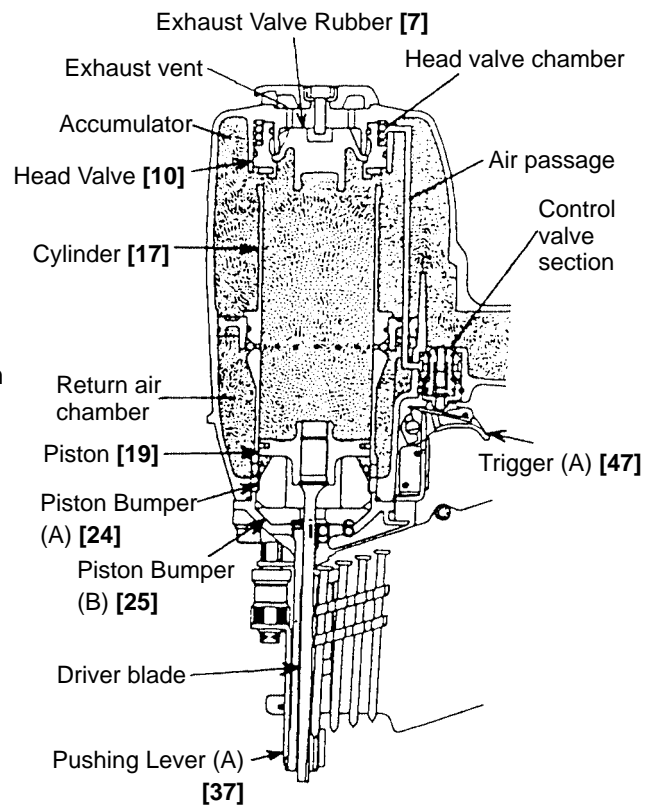
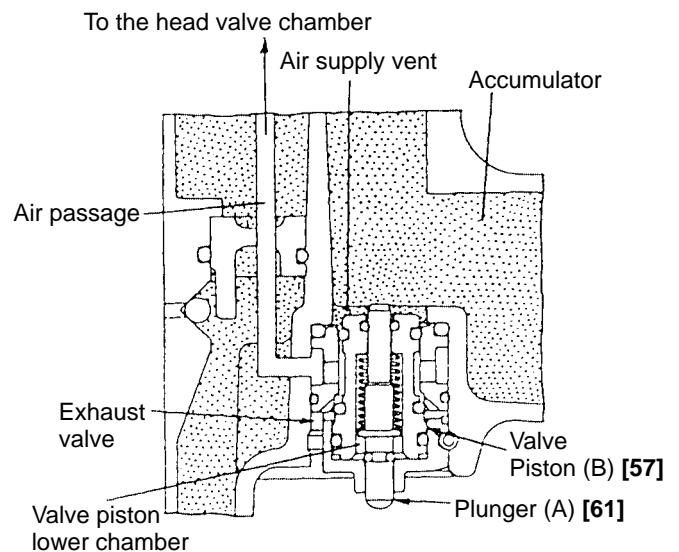

Fig. 7
Fig. 8 Control valve section
(3) During return (See Fig. 7 and Fig. 8.)
- 1) Immediately after driving the first nail, the control valve should be as shown in Fig. 8.
Because of this, compressed air does not flow into the valve piston lower chamber, and Valve Piston (B) [57] remains in the lowered position. Accordingly, the Piston [19] remains in the lowered position as shown in Fig. 7.
- 1) Immediately after the first nail is driven, the control valve should be as shown in Fig. 8.